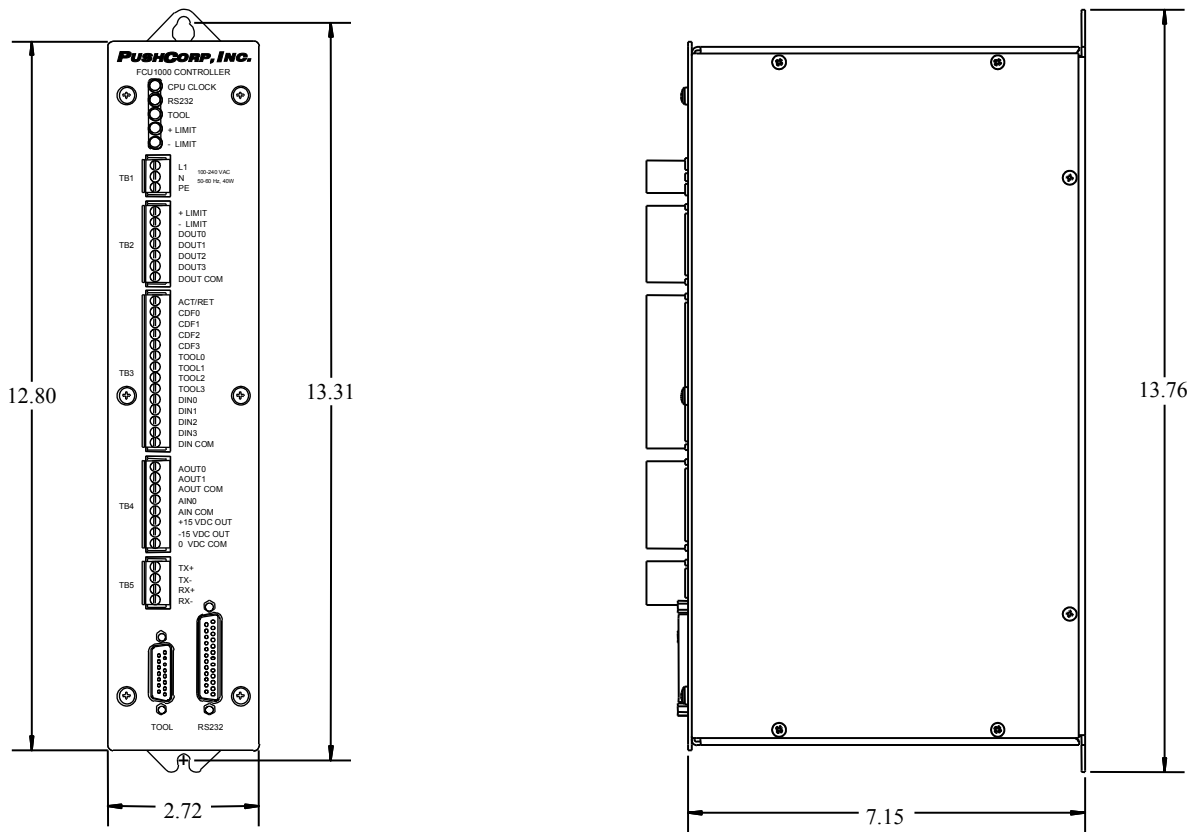

Figure 1. FCU1000 mounting dimensions
The *FCU1000* is designed to mount to the back panel of most any standard control box enclosure. The controller has a key holed tab at the top and a slotted tab at the bottom. This allows the installer to mount two (2) fasteners in the back panel with the controller removed. With these fasteners mounted in the correct location, the installer can then easily slide the tabs over and down on to the fasteners. The drawing in Figure 1 shows overall dimensions and the proper location for the recommended M5 or 10-32 caphead fasteners.